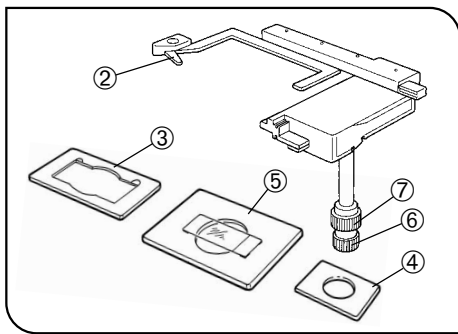

Fig. 21
1. When using an 96-well or 24-well micro-titre plate, extend the specimen holder to directly hold the micro-titre plate. (Fig. 21)
- Terasaki holder ③ (AB4488) for Terasaki plate
- Petri dish holder ④ (AD0675) for $\phi 35$ petri dish
- Slide glass holder ⑤ (AB4489) for slide glass $\phi 54$ petri dish
3. Turn the transverse feeding ring ⑥ and longitudinal feeding ring ⑦ to move the specimen to the required position (stroke: 120 mm width, 78 mm length).